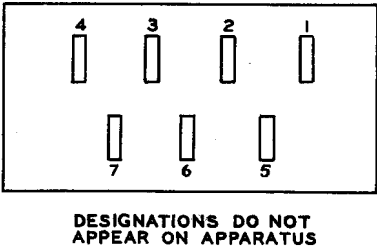

Fig. 63 – Terminal Numbering as Viewed From the Rear (wiring side) — 289-Type Relay
**2.74** As viewed from the rear, the terminals are designated as shown in Fig. 63. Certain of the terminals serve as common connecting points to both windings and contact springs.